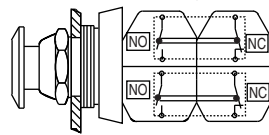

Fig. 2B
- Use an E-Stop button conforming to EN 418. It must have (2) Normally Closed (N.C.) contact blocks. The contact blocks must conform to EN 60947-5-1 positive-opening operation. □□□□
- Use a start/reset momentary pushbutton with a single contact block with (2) circuits (1) Normally Open (N.O.) and (1) N.C. If two separate blocks are used, the N.O. must be assembled to the operator first and the N.C. assembled on it, so that if the N.O. welds, the N.C. will be held open and a fault detected (See Fig. 2B).
This device conforms to the requirements of EN574 IIC of less than 0.5 sec. of synchronous actions of two buttons. Use only pushbuttons with two direct-opening contact blocks; each contact block must have a N.O. and N.C. If four separate blocks are used, the N.O. must be assembled to the operator first, and the N.C. assembled onto it, so that if the N.O. welds, the N.C. will be held open and a fault detected (See Fig. 2B). The two-hand buttons and safety relay must be installed in the same enclosure (IP54 minimum). Wires leading from the two-hand buttons to the relay must be separated to prevent undetected shorts between lines.